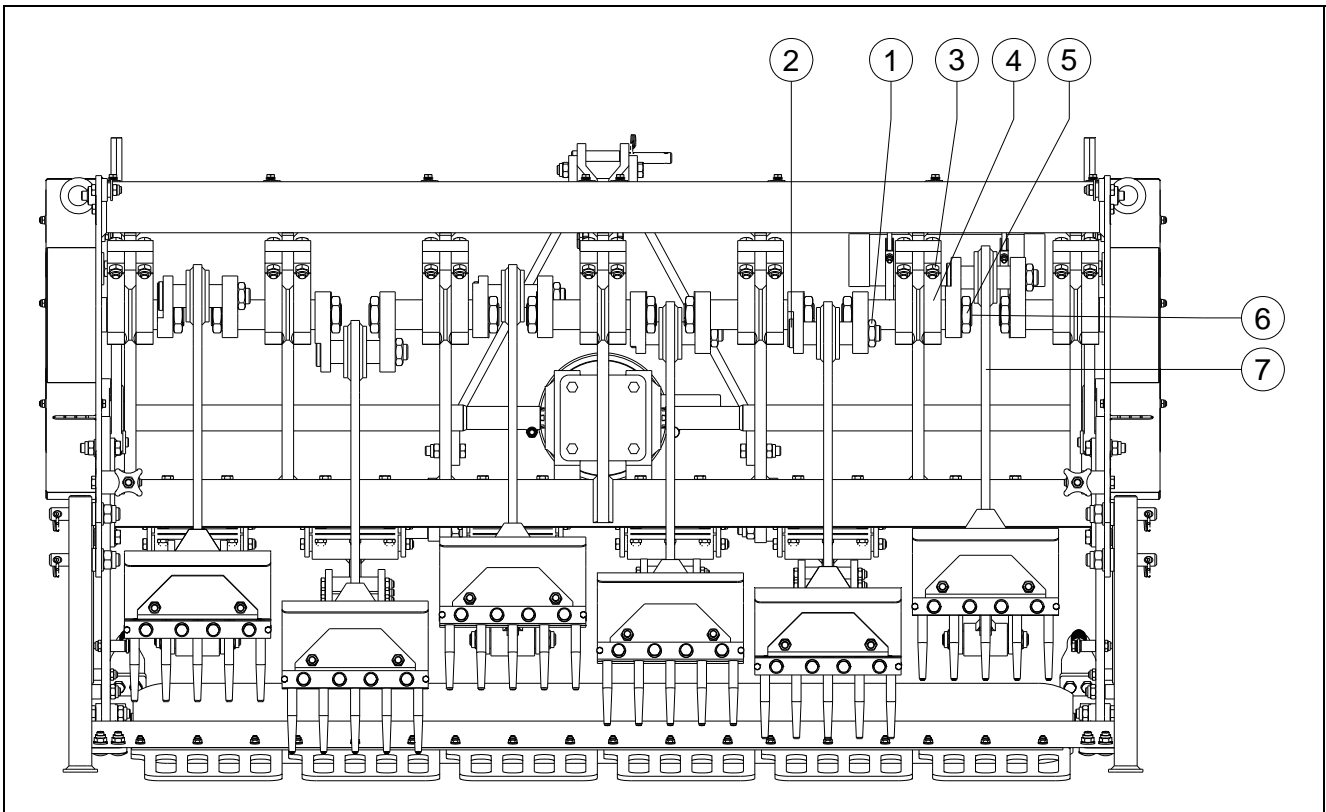

Fig. 16
Figure 16 depicts the structure of the crankshaft. Also check the parts page for more detailed drawings.
A crank must be replaced when it has cracked or when the nuts of the big-end regularly come loose, i.e. the connection rod bearings, connection rod bearing fittings or the big-end pin holes in the crank are damaged. Replace the crank/bearings as soon as possible, in order to avoid any further damage to other parts, and do so as follows (see Fig. 16):
The opening of the tine (13) must always face the back of the machine, see Fig. 16.